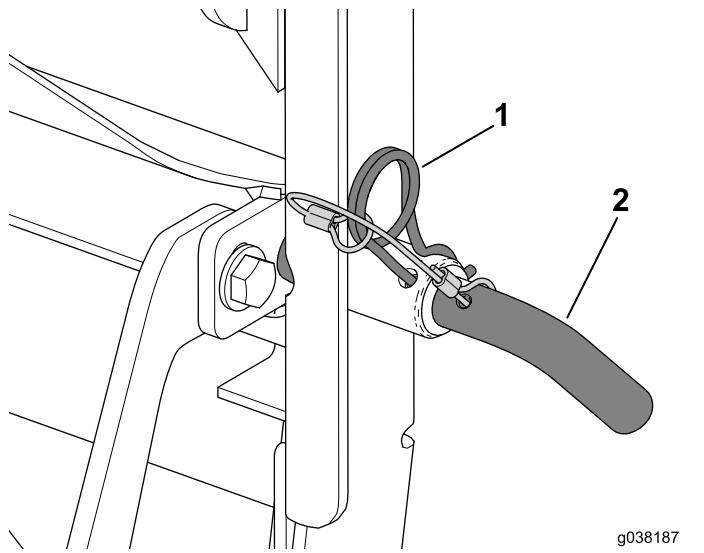

Figure 12
2. Insert the lock pin through the bagger frame and cross brace (Figure 12).
3. Use the hairpin cotter to secure the lock pin (Figure 12).